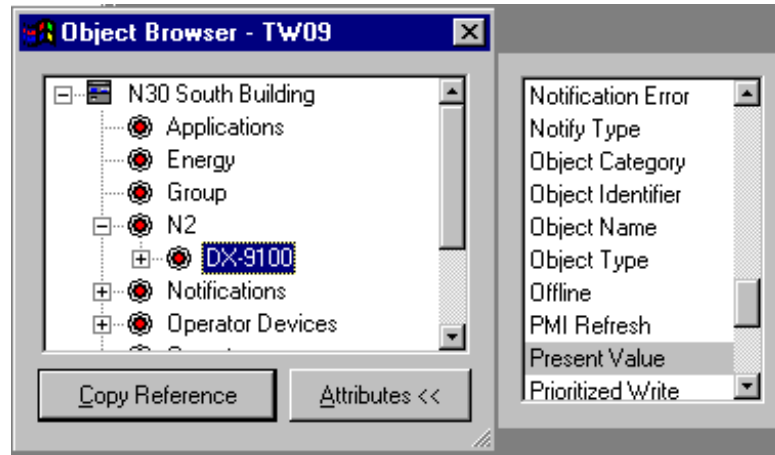

Figure 6-7: Object Browser with Sliding Child Window
3. Click the Attributes button on the Object Browser to open a sliding child window that lists the attributes of the object that is selected in the Object Browser (Figure 6-7).